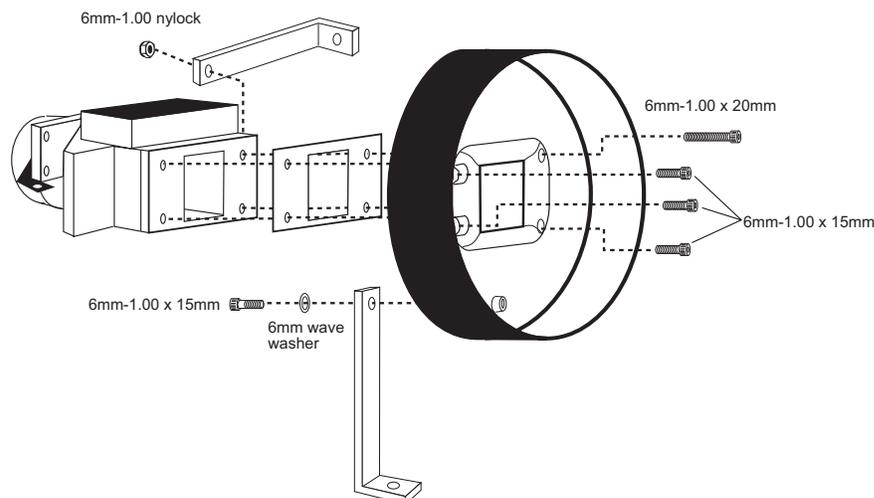

fig. 1
- 11) Install the adapter, with the stock gasket onto the mass-air sensor, using the allen bolts provided. (see fig. 1) Use a thread locking compound and do not over-tighten the bolts.
- 12) Install the two "L" brackets on the adapter with the hardware provided. Do not tighten at this time. (see fig. 1)